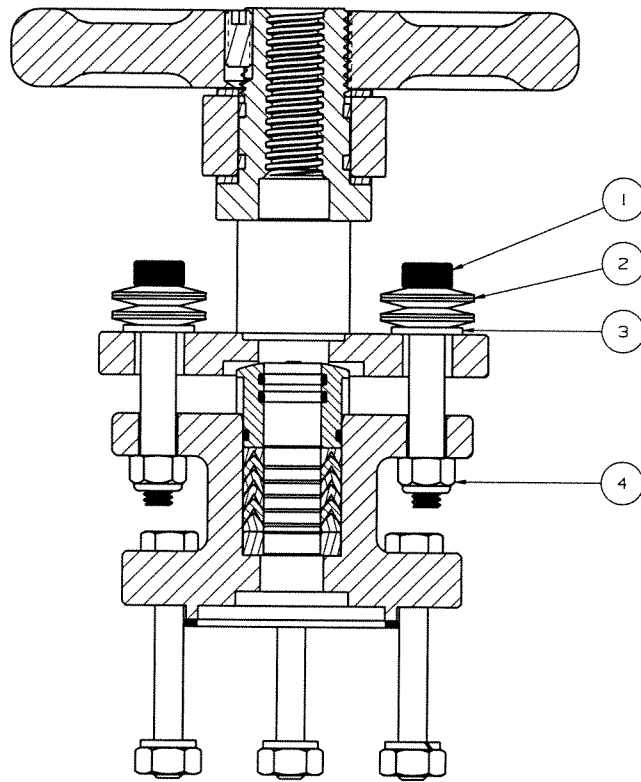

Figure 4 – OS&Y Manual with Live Loaded Packing
To remove the packing for the OS&Y manual valves with live loaded packing (see Fig. 4), remove the packing nuts (4), packing bolts (1), Belleville washers (2), and flat washers (3). Turn the hand wheel clockwise while holding the yoke still. Once the stem threads disengage, pull the stem out from the bottom of the yoke. Remove the packing flange,
Install the new o-rings (17) on the packing follower. Please refer to the GENERAL NOTES under MAINTENANCE section for important information regarding the proper lubrication of the o-rings prior to installation. Replace the packing nut, or packing flange and associated fasteners, and tighten according to instructions in GENERAL NOTES under MAINTENANCE section. For valves with live loaded packing (Fig. 4), place the Belleville washers (2) and flat washers (3) onto the packing bolts (1). Place the packing bolt through the packing flange and bonnet. Tighten the packing nut (4) onto the shoulder bolt until it stops on the shoulder.